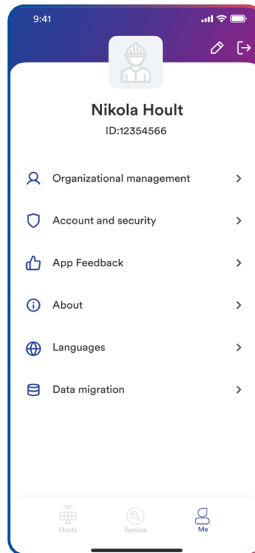

Figure 5. “Me” page
- If you have registered an account with Business user identity through the “Solplanet” application, and want to migrate all the power station information in the account with your end user identity. You can migrate data through “Data migration” on the “Me” page (as shown in Figure 5). The operation steps are the same as the data migration on the login page above.